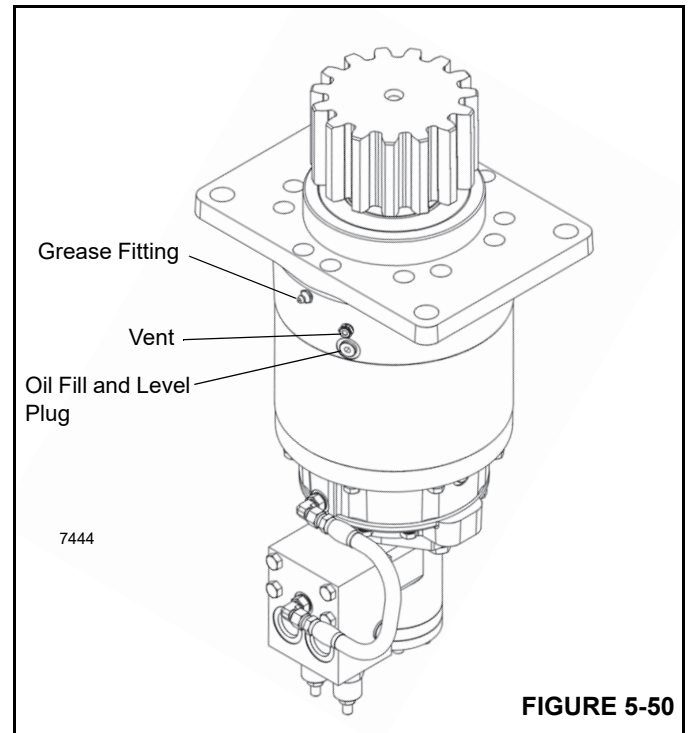

FIGURE 5-50
- Clean around the swing gear box drain, check and fill plugs (Figure 5-50).